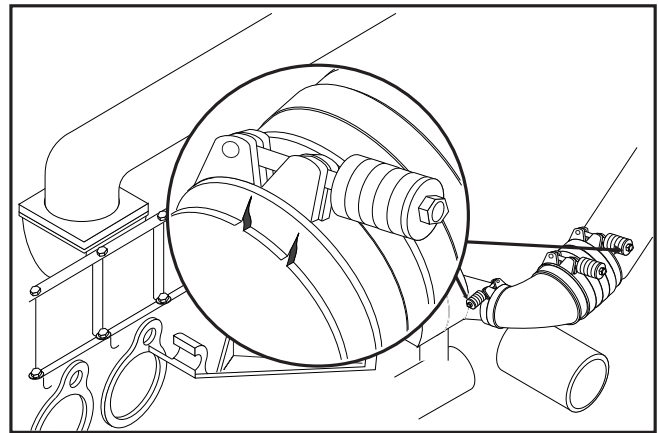

Figure 15
Inspect the inlet piping for cracked hoses, loose clamps, or punctures that can allow dirt and debris to enter the engine (Figure 15). Tighten or replace parts as necessary to make sure the air inlet system does not leak.
- Lock rear casters locking pins (26) to prevent the casters from rotating (Figure 15).